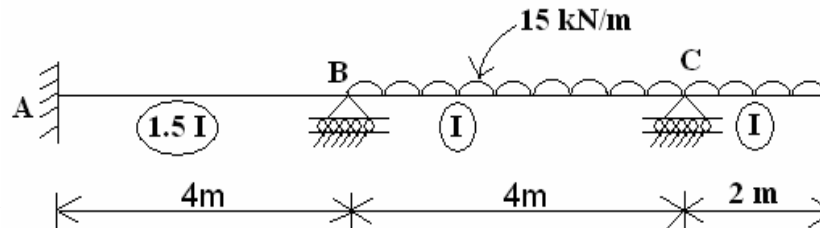

Fig.2
3. Analyze the continuous beam shown in Fig.2 using theorem of three moments. Draw shear force and bending moment diagrams. Mark the location of maximum bending moment and points of contra-flexure and hence draw elastic curve. [16]